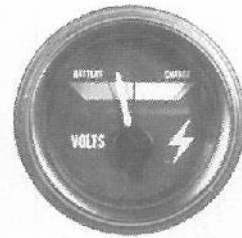

Figure 6: Left Hand Green Band (A)
A. Switch is ON engine not running (Fig. 6)